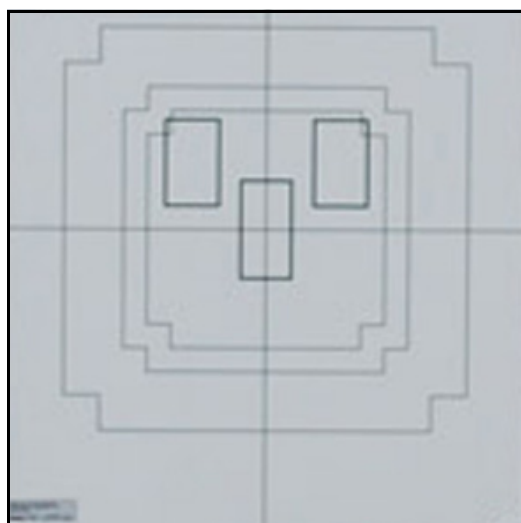

Figure 2-19. Faceplate
- 18** Attach faceplate (Use K-735 hardware card item) (Figure 2-19).